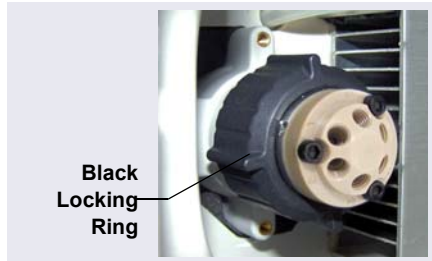

Figure 9-77. *Unscrewing the Locking Ring*
4. Unscrew the black locking ring on the front of the valve (see Figure 9-77) and remove the ring.